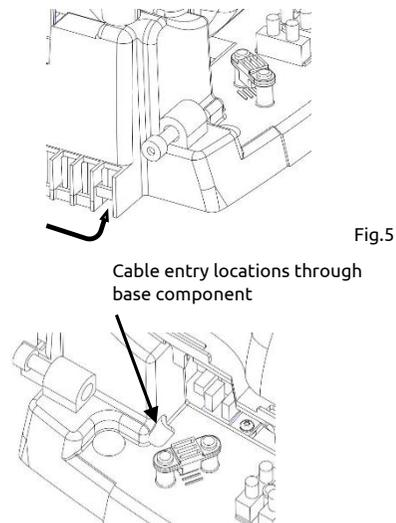

Fig.5
- Feed the supply cable through the entry hole in the dryer base as shown. (Fig.5).